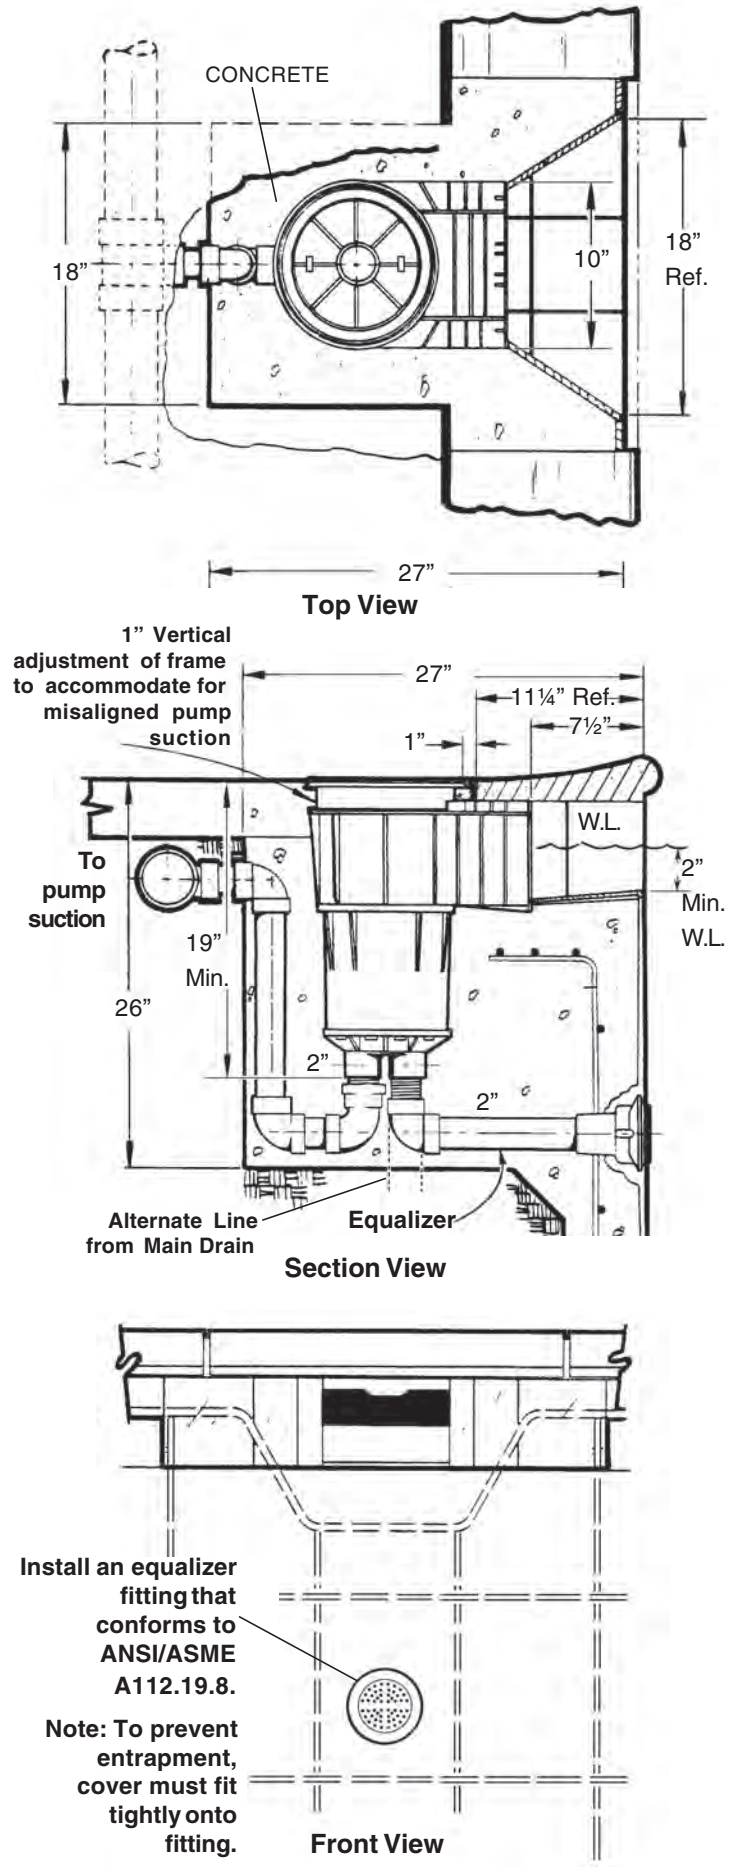

Figure 7: U-3 Skimmer Installation Illustration
NOTICE: Skimmer should be surrounded by at least 4 inches of structural concrete in a monolithic pour, using a cold joint as shown in installation drawings. **Concrete:** See Figure 7 for dimensions.
Line Connections and Testing: Connect pump inlet line to rear port in bottom manifold (Figure 7). Skimmer is ABS plastic; manifold connections are 1½ inch or 2 inch threaded or 1½ inch slip. For threaded connections, do not use pipe dope; to seal joint use RTV Silastic #732* (preferred), Teflon® tape, or Plasto-Joint Stik®. For slip connections, apply PVC primer to PVC pipe only. Then apply ABS to PVC solvent cement to both pipe and slip connections. Consult dealer for correct solvent cement for pipe used. Assemble joint per cement manufacturer's instructions. Allow at least three (3) hours before pressure testing.